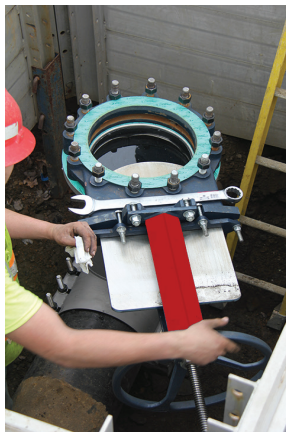

Figure 10B
If using rubber stopping heads, you can position the temporary gate valve as shown in Figure 10B.
3.2.4) Install green fiber gasket (without holes) on the top side of temporary gate valve (see Figure 10B).